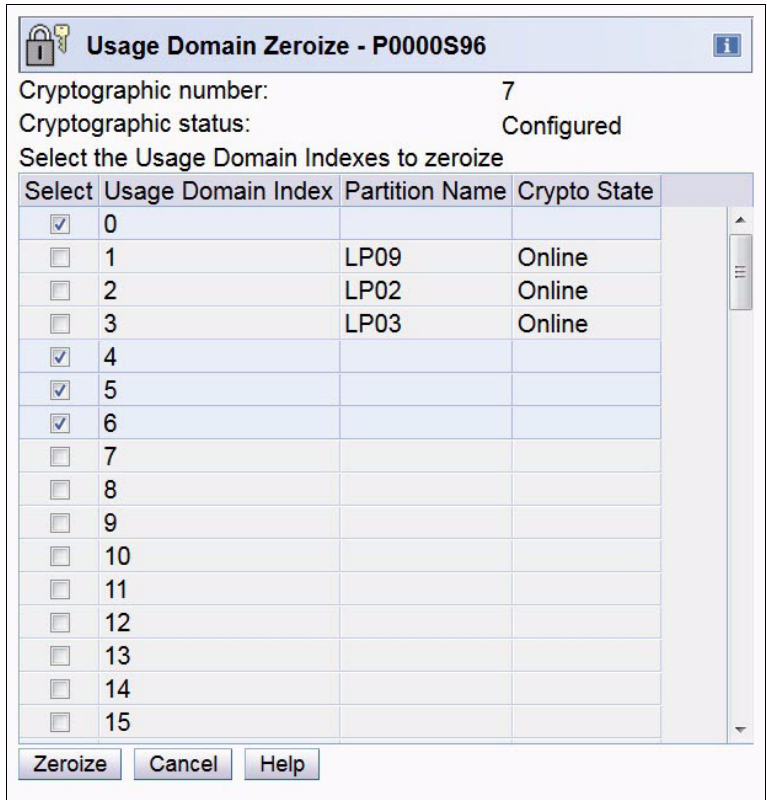

Figure 10-9 SE: Change LPAR Cryptographic Controls Zeroize
- When you remove only the definition of the cryptographic lists, the zeroize window opens (Figure 10-9).